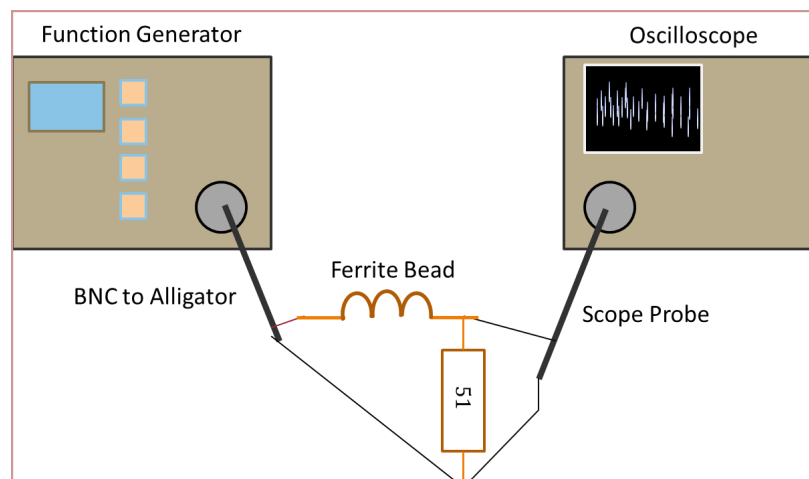

Figure 16. Ferrite bead test set-up.
4. Use the test set-up of Fig. 16. Omit the ferrite bead and connect the alligator clip directly to the 51 ohm resistor on a breadboard. Measure the RMS noise value on the scope. Adjust the screen to get the most accurate measurement. **(Photo and measured value).**
5. Add the ferrite bead as shown in Fig. 16 and measure the RMS noise power. It should go down but depending on your ferrite bead it may not be resolvable by the oscilloscope. Be sure to note this if it is the case. **(Photo and measured value).**